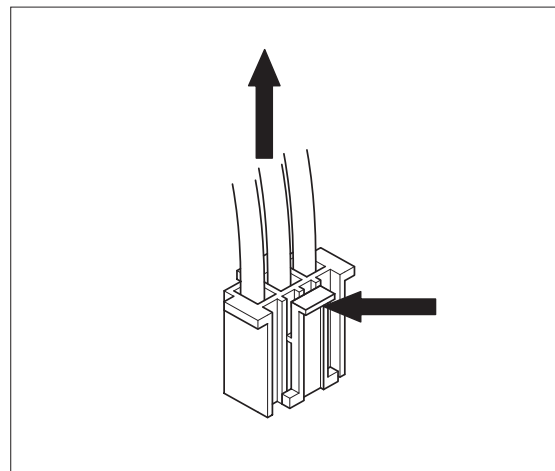

figure 8 Disconnecting the PCB locking plug.
5. Remove the connector CN701 and CN702 from the inverter PCB. figure 8